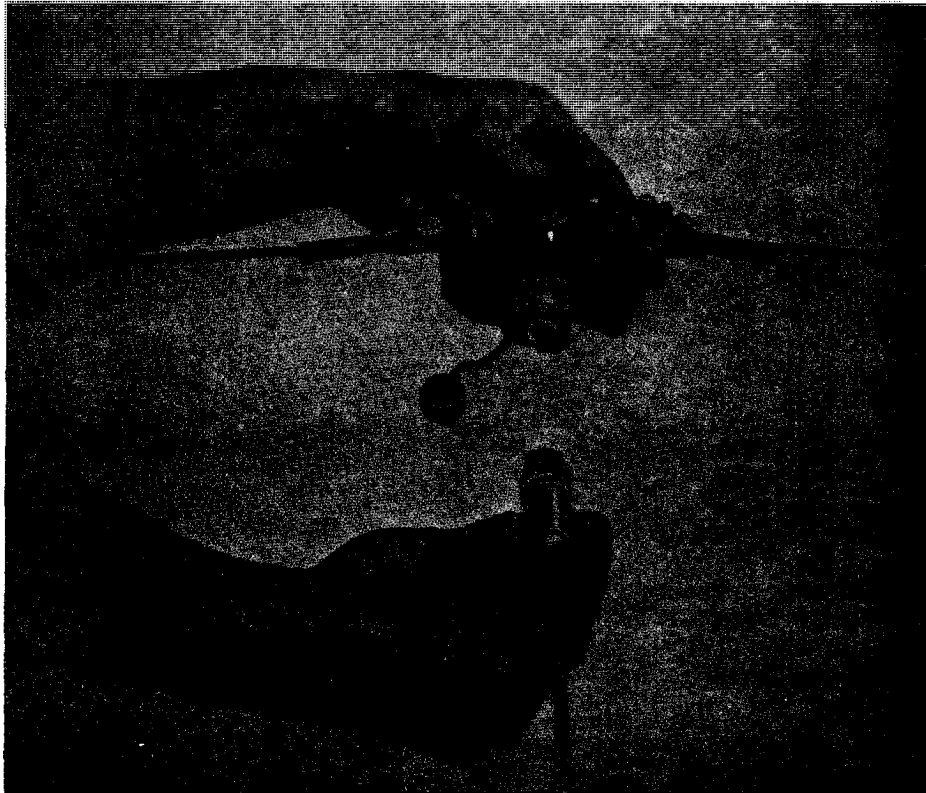

Figure 5. Connecting rf cable to insulator (antenna wires shown connected).
- (1) Connect the antenna wire terminal hooks to the thumb nuts on the opposite ends of the insulator (fig. 5).
- (2) Temporarily fasten the insulator to one of the desired supports.
- (3) Temporarily fasten the free end of the tape measure to the center of the insulator.
- (4) Unwind the tape measure to the length corresponding to the desired frequency.
- (10) Connect the ends of the rf cable between the insulator connector (fig. 5) and the antenna connector